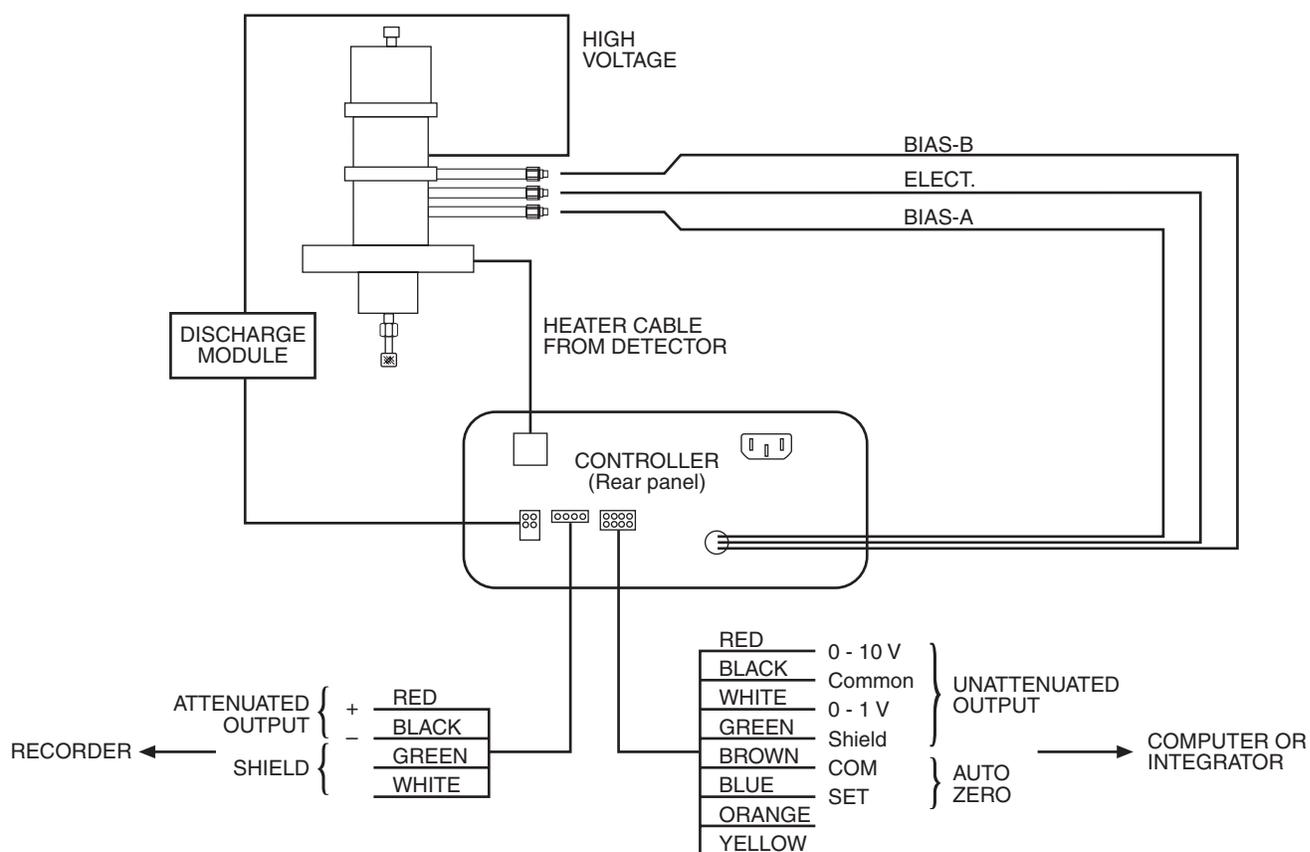

Figure 4: Electrical connections
1. Referring to **Figure 4** as necessary, connect the bias and electrometer cables as follows: the **BIAS-B** cable to the top electrode (closest to the discharge electrodes), the electrometer cable (**ELECT**) to the middle, and the **BIAS-A** cable to the bottom electrode.